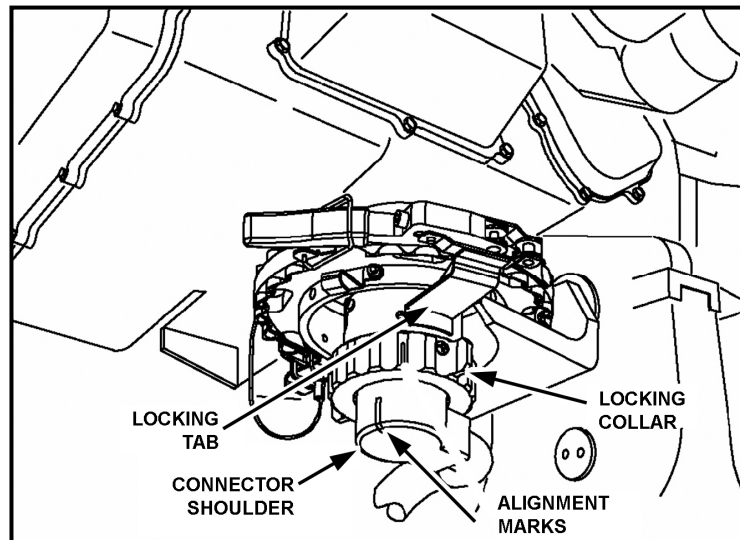

Figure 3-20. TAS mount.
- (1) The gunner—
- (d) Lifts the TAS from the TAS mount (Figure 3-20).